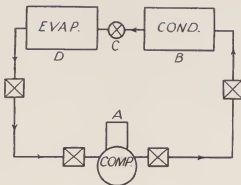
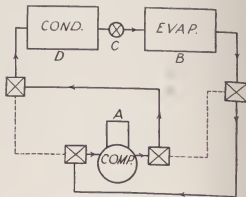

Figure 1
Figure 2
I. The refrigerant is put under high pressure and temperature in the compressor (A), and from there is pushed through the condenser (B), where air from the kitchen is blown over the coils. The refrigerant is thus cooled and liquefies. From here the refrigerant flows to the expansion valve (C), where its pressure is decreased. It then boils in the evaporator (D), thus cooling the inside of the refrigerator box, and is finally pumped back to the compressor, completing the cycle.
Suppose, in Figure 1, that the condenser (B) is located in the living room of a house with a fan blowing over it, and the evaporator (D) is located outside the house. The refrigerant flows through the valve (C), boils, and picks up heat from outside. Then the refrigerant travels through the compressor (A) and into the condenser. Here a fan circulates the room air over the hot coils, and thus the room is heated. This is the heat pump operating in its simplest form as a heating unit. Figure 2 shows how, by means of four valves, the functions of the evaporator and condenser can be reversed and the system operated as a cooling unit.